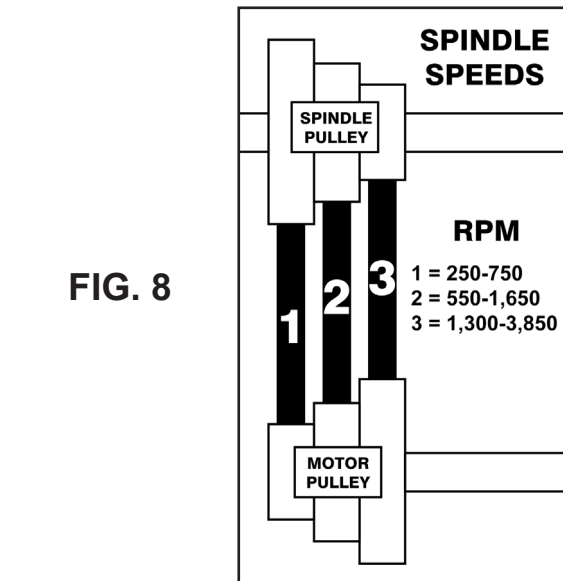

FIG. 8
4. Lift the Motor Connecting Plate Handle (#19, D) to loosen the tension on the Poly V-Belt (#16). The belt can now be re-positioned on the upper Spindle Pulley (#52) and lower Motor Pulley (#14, E) for the desired speed range setting. FIG. 8 shows the belt positions for the three speeds.